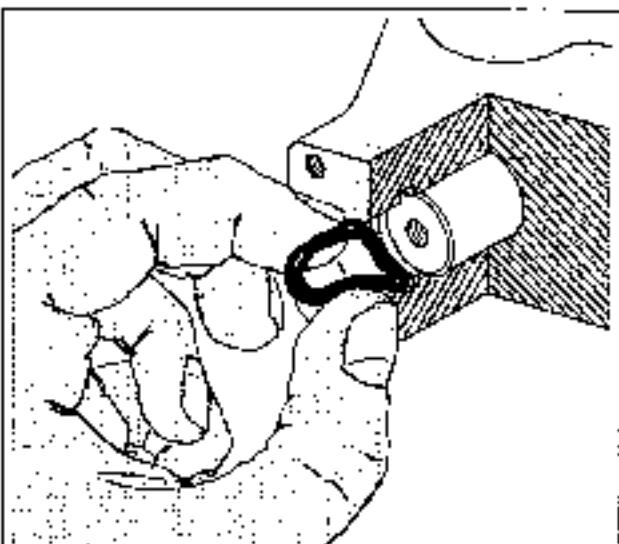

Fig. 1.3.5d
1. Install the three load check poppets (4), poppet springs (3) and load check plug (2) in the control valve housing. Install a new O-ring on the load check plug (2) before assembly.
2. Install the relief valve (1) in the control valve housing. Install new O-rings and backup washers on the relief valve before assembly.
3. Lubricate with system oil, three spool O-rings (9) and install them in the O-ring grooves at the front of the valve housing.
4. Carefully insert each spool into its proper bore from the back of the valve housing. Rotate the spools as they pass through the O-rings at the front of the valve body. Pull the spools out of the front of the valve body until the back edge of the spool is in line with the back edge of the O-ring groove at the rear of the valve housing (fig. 1.3.5d).
5. Lubricate with system oil, three spool O-rings and install them in the O-ring grooves at the rear of the valve housing (fig. 1.3.5d). Push the spools back into the valve body rotating while pushing until the back of the spools are even with the outside of the valve housing.